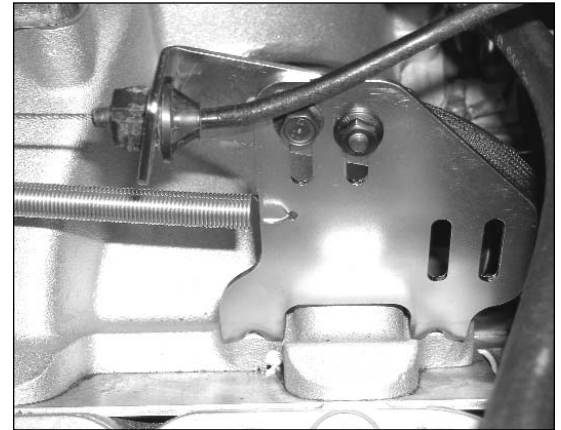

Figure 2 - Throttle Cable Bracket
4. *(Does not apply to #28455)* Select the appropriate cable brackets for your application (large or small opening brackets) and attach them to the GEN III throttle bracket base with the appropriate number of 6mm x 1.0 x 12mm serrated flange hex bolts. **(Note:** In our retrofit of the LS1 into a 1974 Camaro, using a TH400R automatic transmission, we only needed one of the small opening cable brackets for the throttle cable, since a kickdown cable is not used. See **Figure 2** for example.)